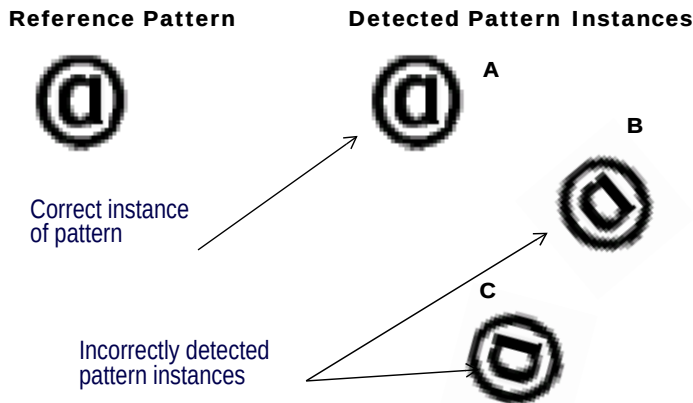

Figure 330 Detecting Symmetric Patterns
- For example, in Figure 330, a large part of the pattern consists of a circular, and thus symmetrical contour. Also, a large part of the inner “a” pattern can also be identified at any rotation. Because of this rotational symmetry, the Pattern Locator cannot disambiguate the various poses of the pattern.